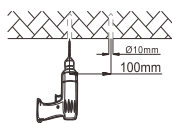

Figure 3
- 1.Use a chalk or sharp tool to mark signs on the top of the ceiling or wall, then drillholes on the signs by electric drill. (Figure 3)